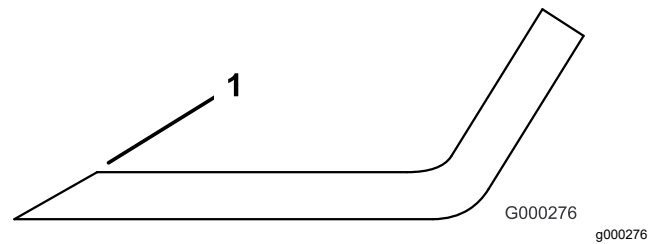

Figure 143
4. Sharpen the cutting edges if they are dull or nicked (Figure 143).